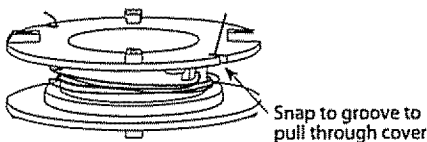
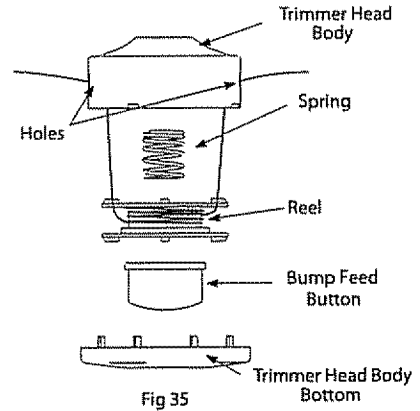

Fig.34
Fig.35
5. Wind cord in direction indicated (CW) leaving 6 in (15-20 cm) access to pull through holes trimmer head body (Fig. 34).
6. Snap the free length of lines into top grooves in reel and pull through holes on trimmer head body (Fig. 34 and Fig. 35).
7. Close assembly in sequence as shown in (Fig. 35).